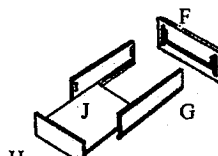

Figure 8
8. Drawer assembly (Figure 8): place the drawer face face down on a flat soft working surface. Align the two drawer sides and lock the cam lock. Slide drawer bottom (J) into the grooves of drawer sides (G). Then place drawer back (H) and lock the cam lock. Repeat this step for more drawers.